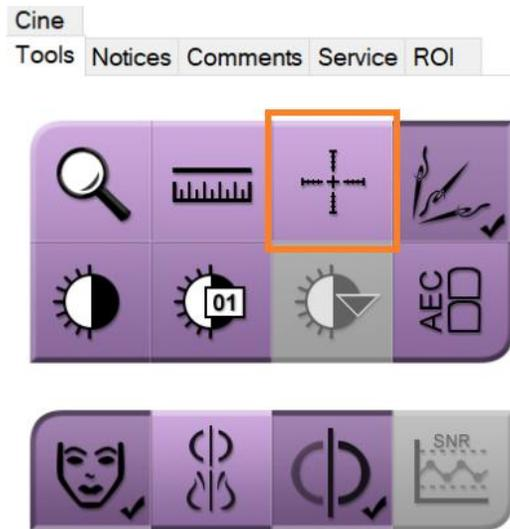

Figure 2 - Crosshair Tool
2. On the Tools tab select the crosshair tool. Use the mouse or trackball to place a crosshair anywhere on the acquisition monitor to verify that the mouse/trackball clicks are being accepted. (Reference Figures 2 and 3)